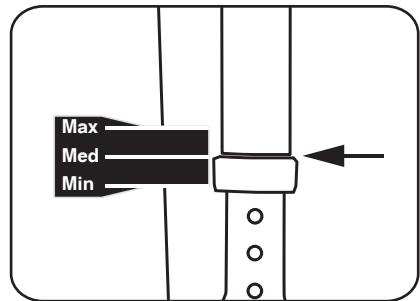

Fig. 1: Downhaul until the calibration mark lines up with the bottom of the mast.
c) Downhaul your sail until the calibration mark lines up with the bottom of the mast (fig. 1). We suggest using the medium mark most of the time.